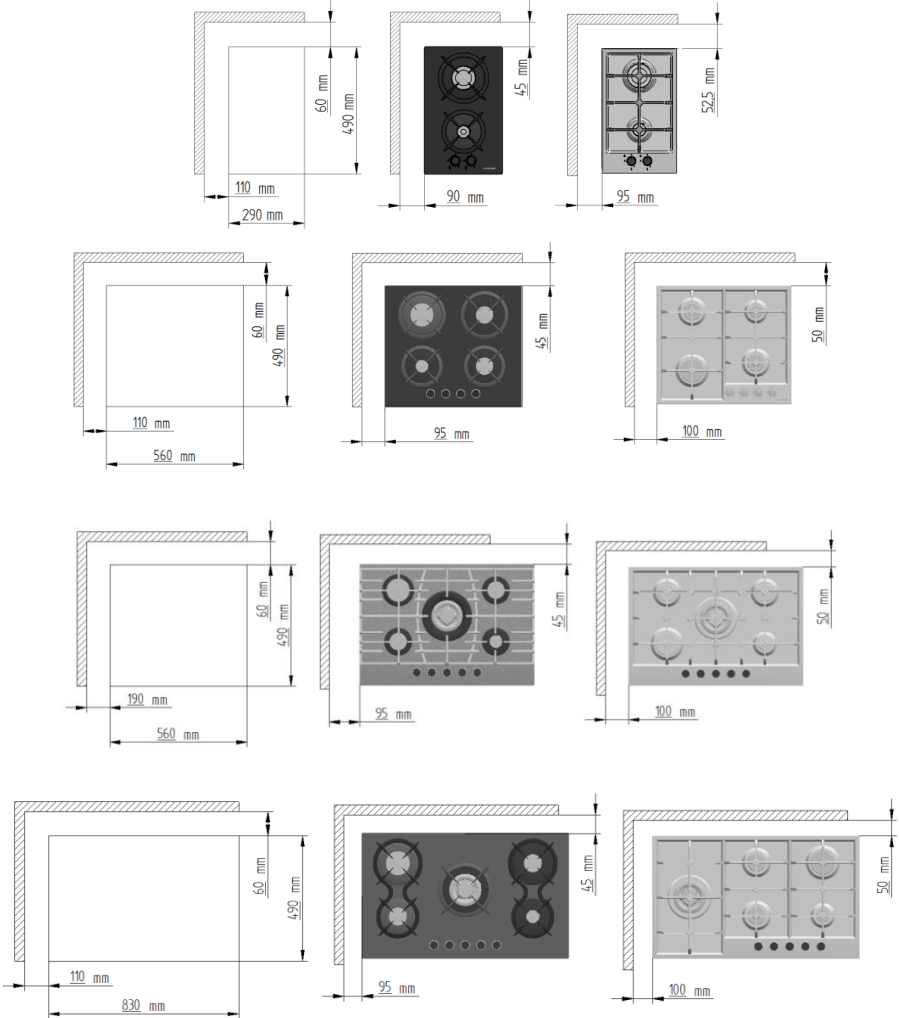

Figure 4.
- A safe distance should be left between the hob and the counter walls (Figure 4).
- The hole to be provided for the hob on the counter should be as per the figure. (Figure 4)